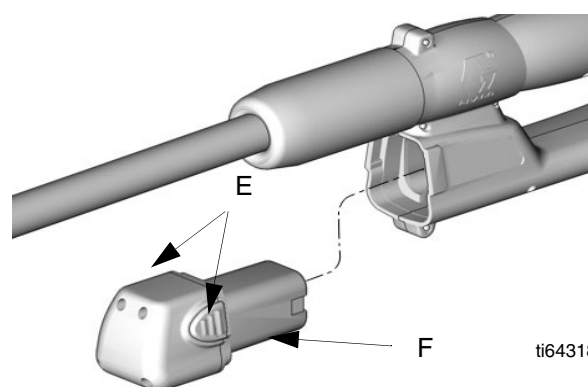

FIG. 20
- Remove the battery by pressing in on both battery lock buttons (E) and pulling the battery (F) out and away from the meter. See FIG. 20.
- Replace the battery by pressing in on both battery lock buttons (E) and pushing the battery (F) into the meter.